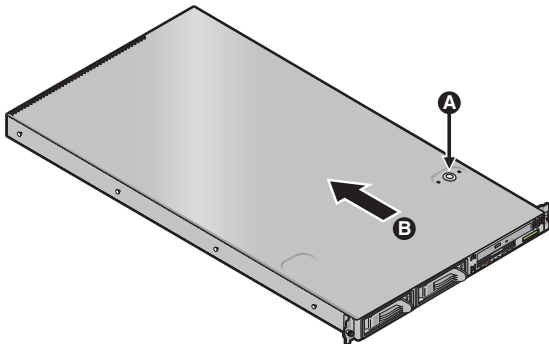

FIGURE 4-1 Removing the Cover
7. Pull the cover toward the server front slightly, then press the cover latch release button with your right thumb (A) and slide the cover towards the rear of the chassis until it contacts the stop (B) (see FIGURE 4-1).